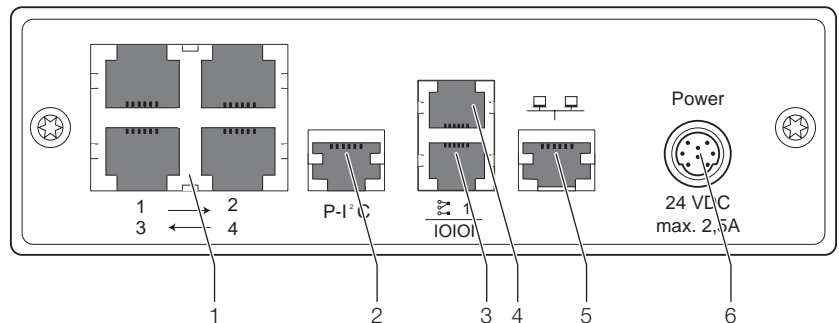

Fig. 47: Control unit of the Liquid Cooling Package Inline (Basic CMC) – rear
Four additional standard sensors can be connected to the control unit (Basic CMC) to monitor additional physical parameters of the Liquid Cooling Package Inline. The sensors must simply be connected to one of the four sockets on the rear of the control unit (Fig. 47, item 1) and configured via the Basic CMC.